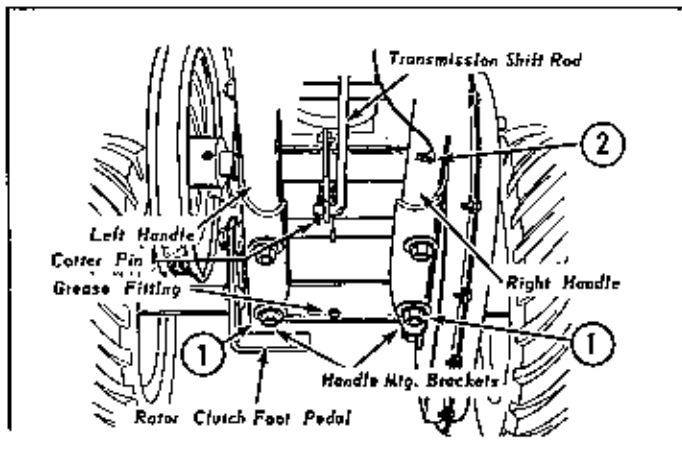

Figure 1
1. Fasten the handle assembly to the mounting brackets as shown at #1 in Fig. 1, using the 3/8-16 x 2" capscrews, flat washers, lockwashers and hex nuts.
2. The throttle cable assembly is coiled around the engine for shipping purposes. Uncoil the cable and attach to the housing assembly. The cable is held in place by the clamp on the lower portion of the right handle as shown at #2 in Fig. 1.
3. Insert the lower end of transmission shift rod through the hole in the shift lever and fasten in place with a cotter pin as shown in Fig. 1.
The 23" Sno-Away is equipped with 4 grease fittings that require occasional lubrication with a general purpose automotive grease. The location of these fittings is shown in Figures 1, 6, & 7. The 26" Sno-Away has an additional fitting on the 2-speed axle cover. Refer to page 6 for oil draining procedure!